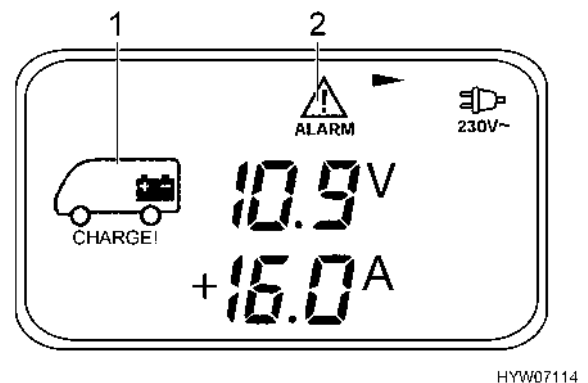

Fig. 114 Battery-menu (living area battery)
- Press key (Fig. 111,2): the battery-menu (Fig. 114) appears.
- Voltage (V), charging current (+A) and discharging current (-A) of the living area battery (Fig. 114,1)
- Voltage (V) of the starter battery (menu page 2)
The battery-menu appears and the symbols (Fig. 114,1 and 2) flash as soon as the voltage of the living area battery falls below 11 V (measured under operation) and there is the threat of a total discharge. Additionally, the voltage indicator flashes.